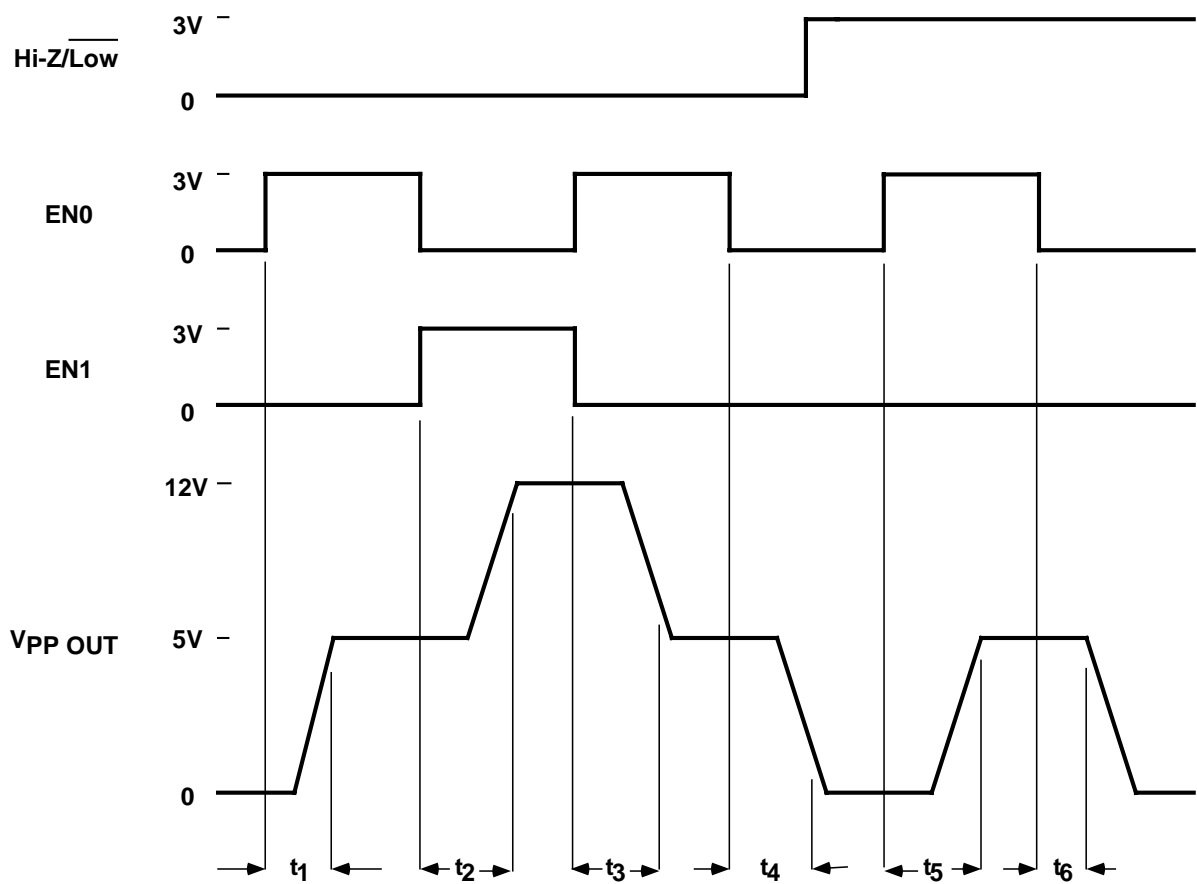

Figure 1. Timing Diagram.
**SWITCHING TIME** (See Figure 1)